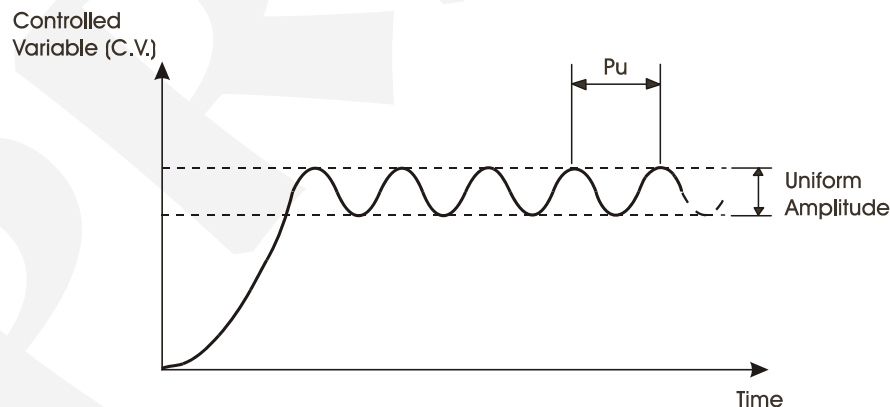

Fig. 30 - Steady state oscillation
- iii) Adjust the gain value (PROP), also called sensitivity, until reaching a limit value in which the controlled variable will show a uniform oscillation, i.e., with constant amplitudes (see figure 30). Values above that limit produce amplifying oscillations, whereas gain values below that limit will dampen those oscillations. By ultimate sensitivity (K_u) it is meant that limit gain and by ultimate period (P_u) it is meant the period of constant oscillation caused by this sensitivity.